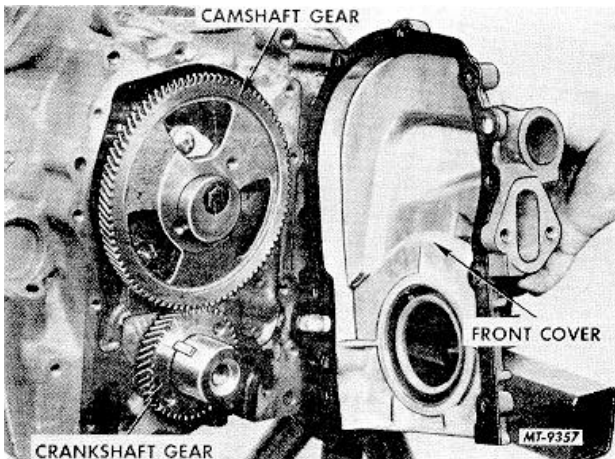
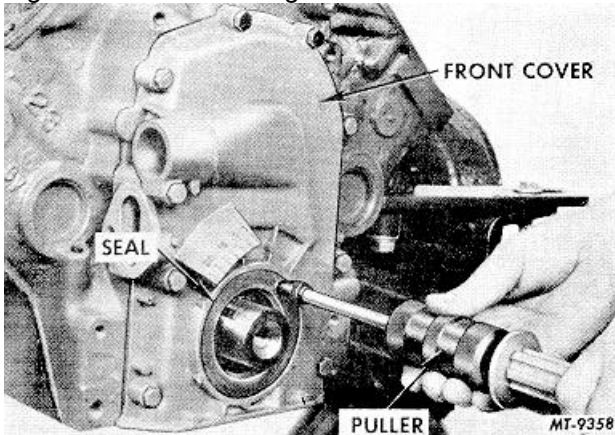

Fig. 44 Removal of Engine Front cover
Fig. 45 Removing Engine Front Cover Seal
52. Loosen the engine front cover mounting bolts and lift the cover from the crankcase, Fig. 44. Remove front cover oil seal. NOTE: Where it is the desire to replace the engine front cover oil seal while engine is in the chassis, it will be necessary to remove hood, radiator shell, radiator and crankshaft pulley. Then using puller SE-2091 remove seal as shown in Fig. 45. To reinstall the seal, follow note under step 12 outlined under "ENGINE ASSEMBLY."